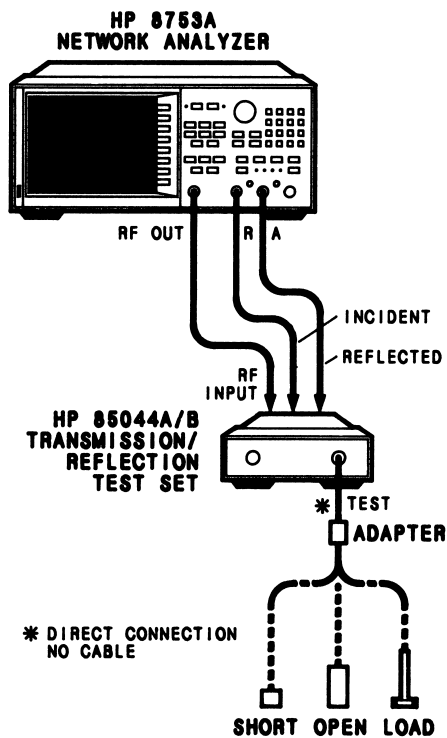

Figure 4-2. HP 85044A Calibration Setup.
1. Connect the HP 85044A test equipment to the HP 8753A and connect the 7 mm/type-N (m) adapter as shown in Figure 4-2. Turn on the analyzer and press **[PRESET]**.